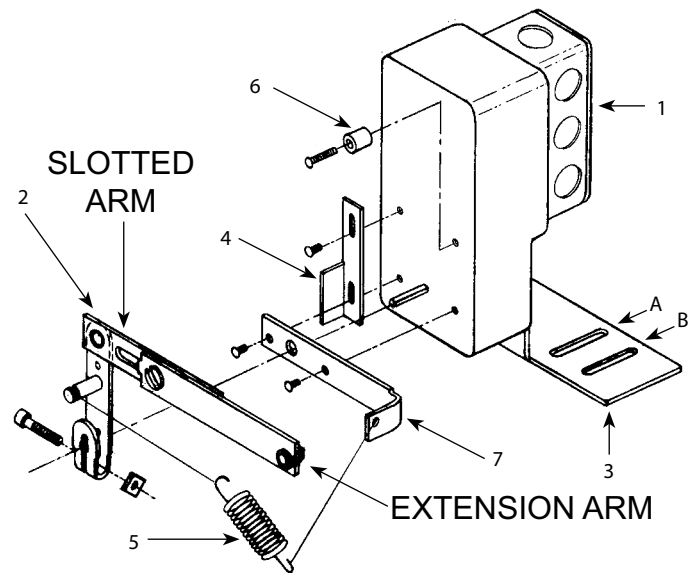

Figure 2 - Attaching Motor Plate
2. Loosen the slide adjustment nuts on the yoke and spread the slide adjustment bars out equally to reach the tie rods so that the threaded rod is in the center of the mullion bar. (Refer to Figure 2 for parts breakdown)